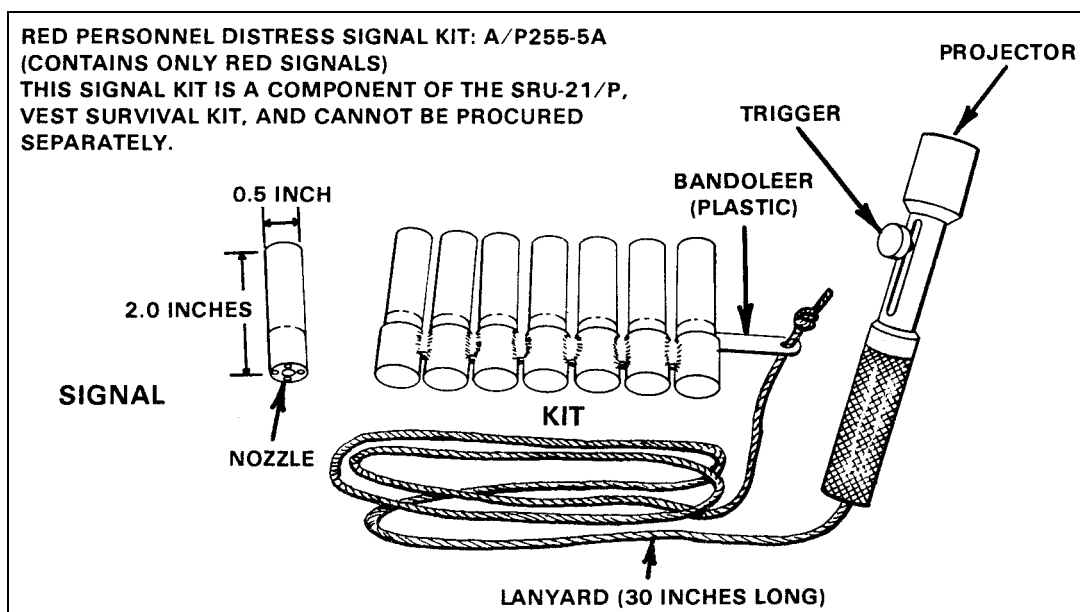

Figure 5-9. Signal kit 2.
(1) *Contents.* This kit contains only red illumination ground signals. The projector and the bandoleer plus seven signals make up this kit (Figure 5-9). The burning time for these signals is 10 seconds at 100,000 candlepower.